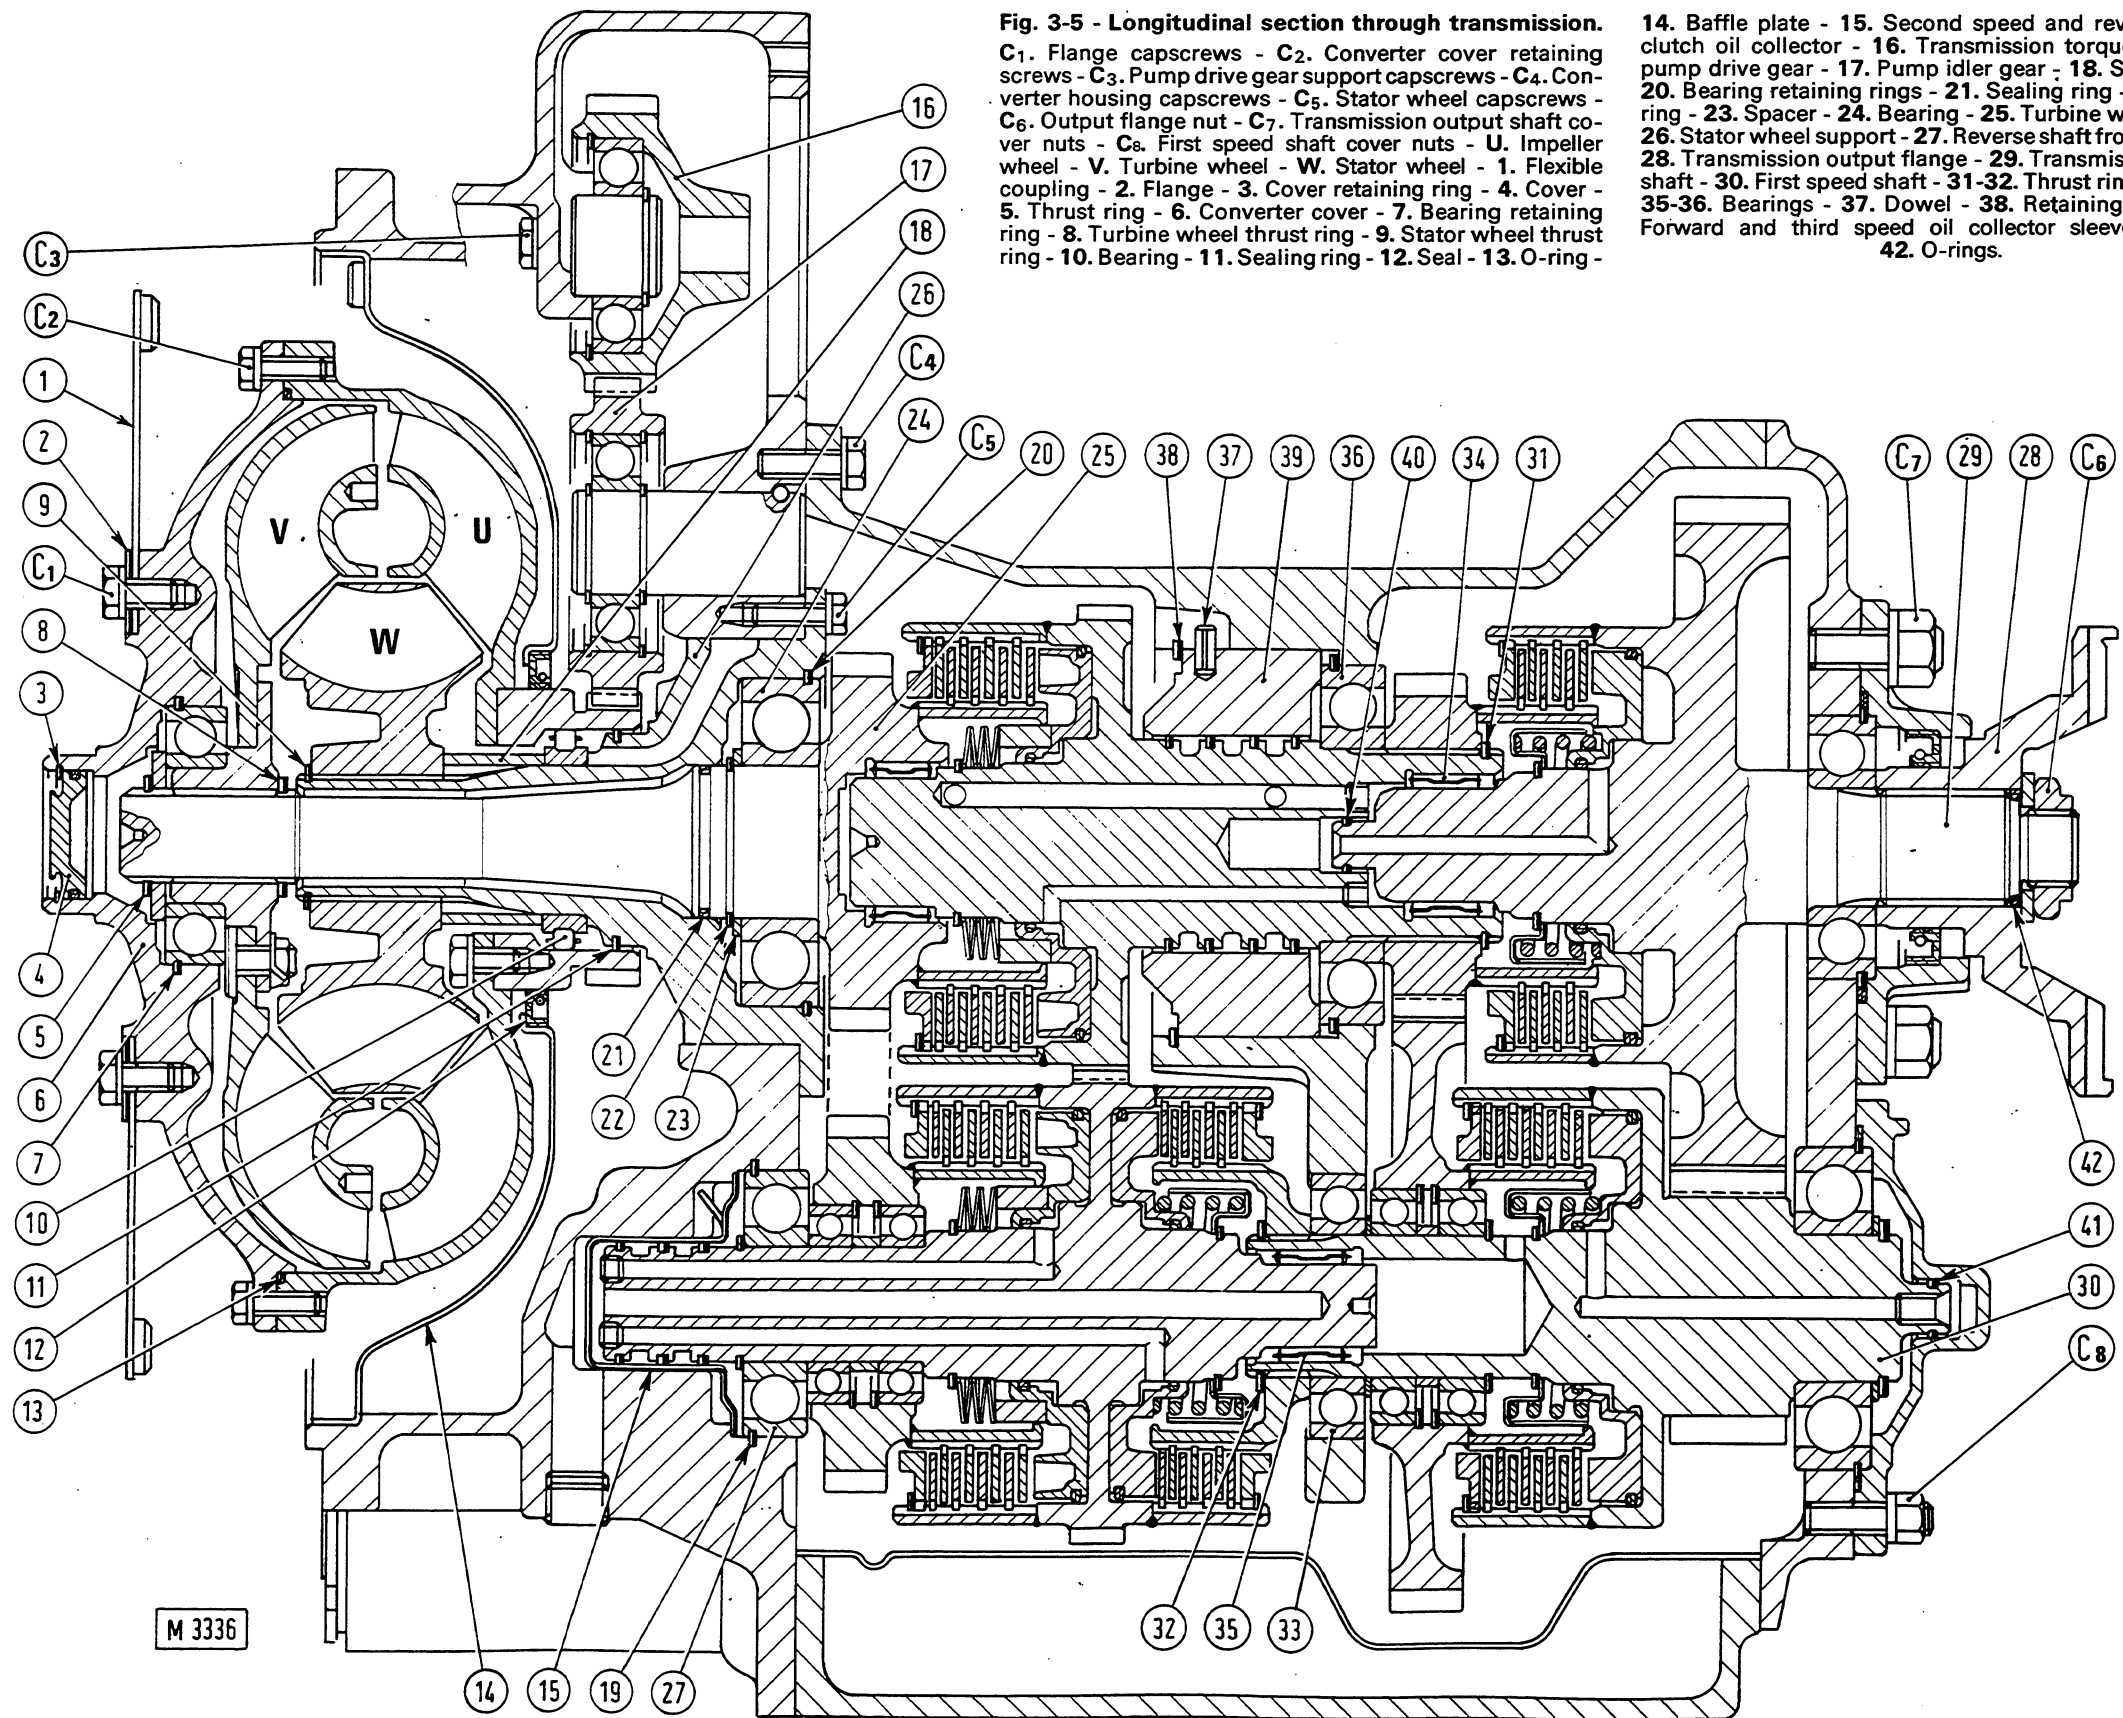

Fig. 3-5 - Longitudinal section through transmission.
- Remove starter on R.H. side of engine and loosen screws securing flywheel to flexible coupling (1, fig. 3-5) through
- Loosen screws (C_1 , fig. 3-5) retaining flange (2) and flexible coupling (1).
- Remove retaining ring (3) and cover (4).
- Loosen all but two of converter housing screws (C_4 , fig. 3-5).
- Support converter housing using lifting chain 75291517 (A, fig. 3-10) and loosen the last two screws (C₄, fig. 3-5) securing converter housing to
- Using the pliers shown in detail a) fig. 3-10, open out reverse speed clutch front bearing retaining ring (19, fig. 3-5). Hold the ring open and lift converter housing off transmission case and lower to ground.